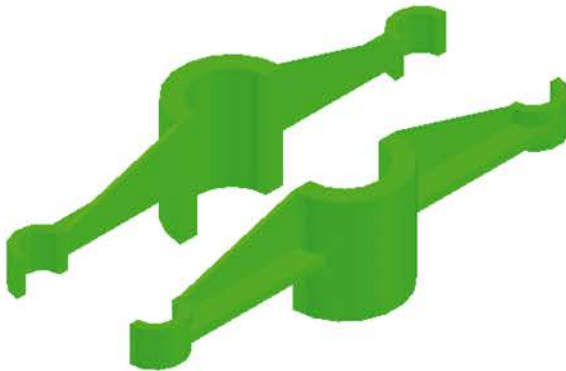

Fig. 11.24 First example – Slice
FIRST EXAMPLE – SLICE (FIG. 11.24)
6. Shade in **Conceptual** visual style. The result is shown in Fig. 11.24.